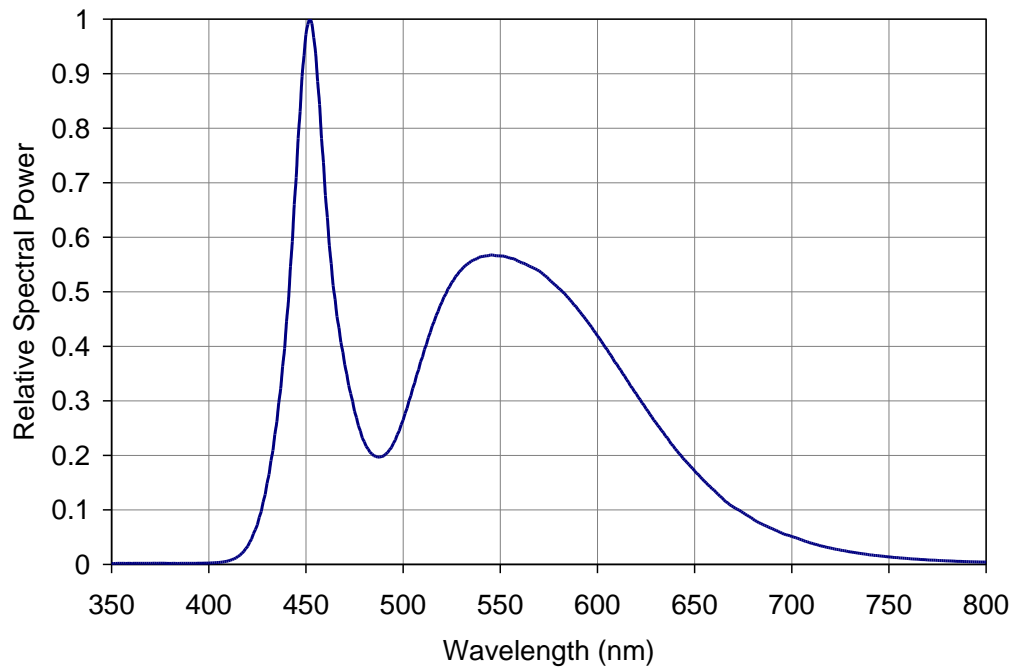

Figure 5: Typical relative spectral power vs. wavelength @ $T_C = 25^\circ\text{C}$.
- Solder conditions per JEDEC 020D. See Reflow Soldering Profile Figure 5.